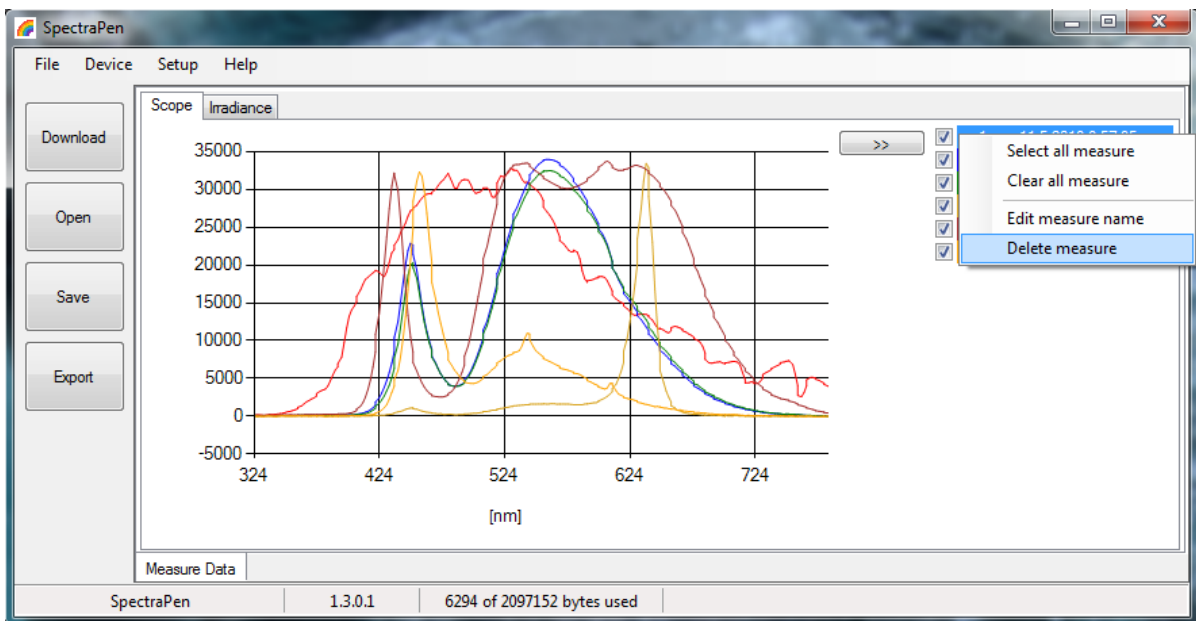

Fig. 29 Options for list of data.
7. Right click on list of measured data enables **edit data name**, **delete** selected measurement or **show and hide** all measured data in the graph– Select all measure and Clear all measure (Fig. 29).